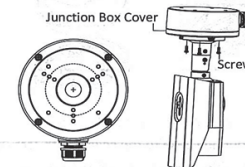

Figure 2-4 Fix the Camera with the Junction Box
2. Route the cables through the cable hole of junction box and fix the camera with the junction box cover with the supplied screws, as shown in Figure 2-4.